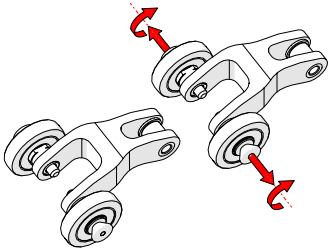

Fig. 47 - Pull out and twist pins
1. Pull the pins out from the wheels and twist a quarter turn latching the pins in a retracted state (Fig. 47).